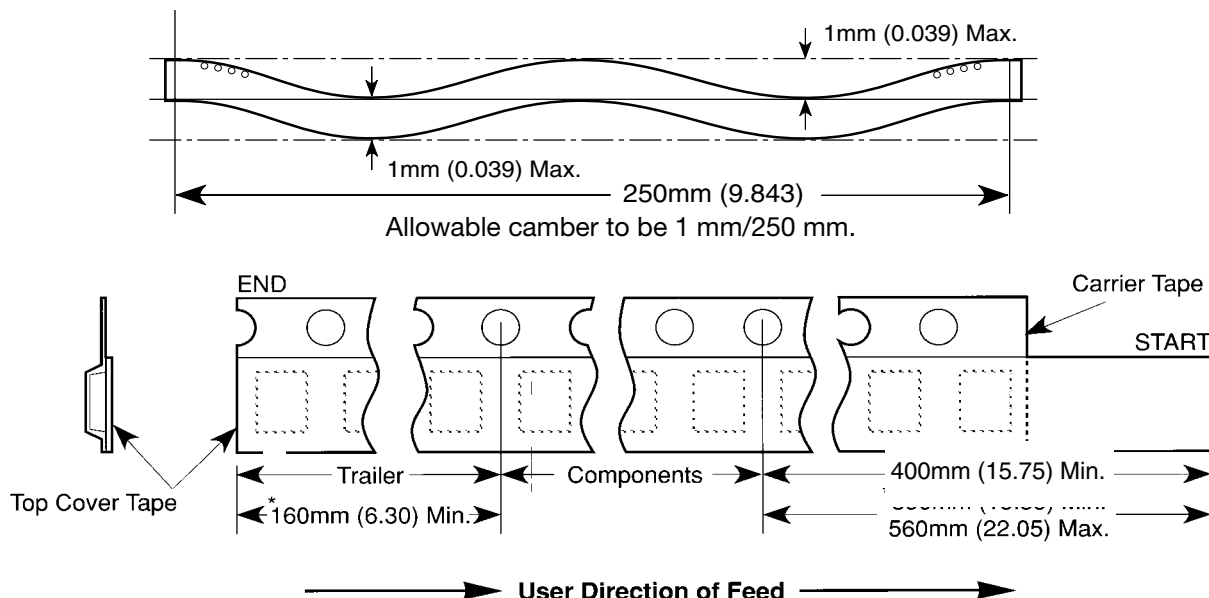

Figure 2:
- Tape with components shall pass around radius "R" without damage (see sketch A). The minimum trailer length (Fig. 2) may require additional length to provide R min. for 12 mm embossed tape for reels with hub diameters approaching N min. (Table 2)